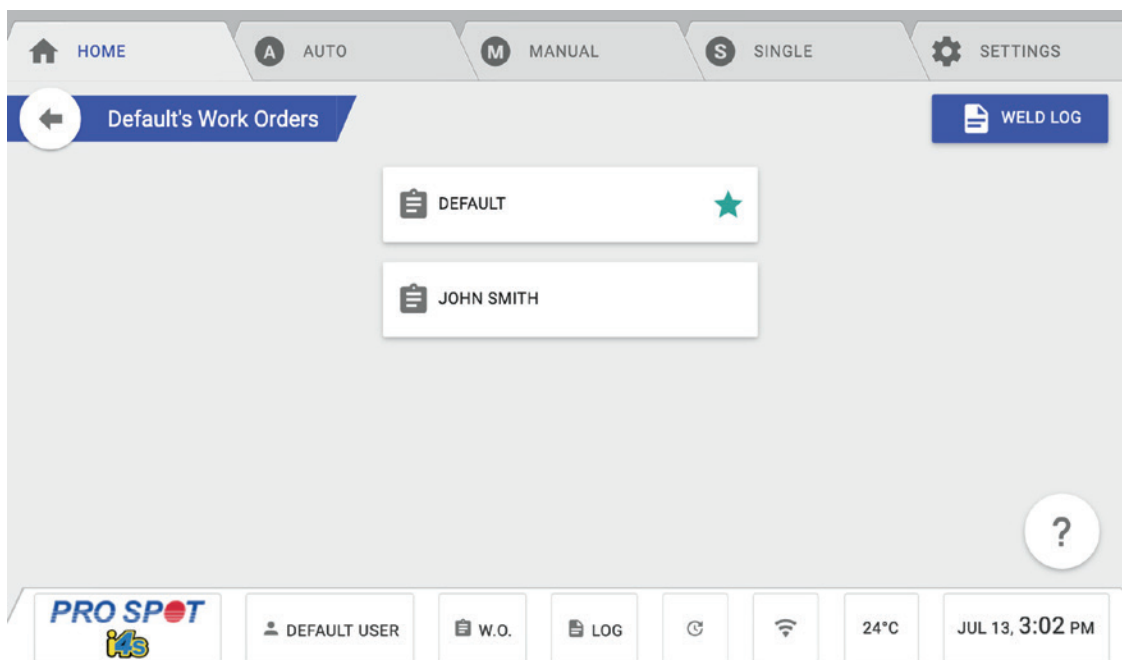

Figure 4.27
**Make A Work Order Active:** Once work orders are assigned to a particular user login, the user would login with their username and then press the W.O. button in the lower status bar. The user will be presented with a list of work orders including the default work order. The green star next to the default work order indicates that the default work order is active (Figure 4.27). When a work order is active, it means that, every weld performed is logged into that active work order. If the user needs to make a different work order active, they simply press the work order they wish to make active and press the Make Active button.